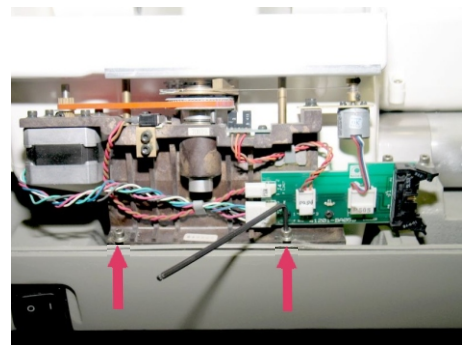

FIGURE 5
- 5) At the base of the LMU, there are two allen screws (3mm). (See Fig 5) Remove these two screws and the washers under the screws.